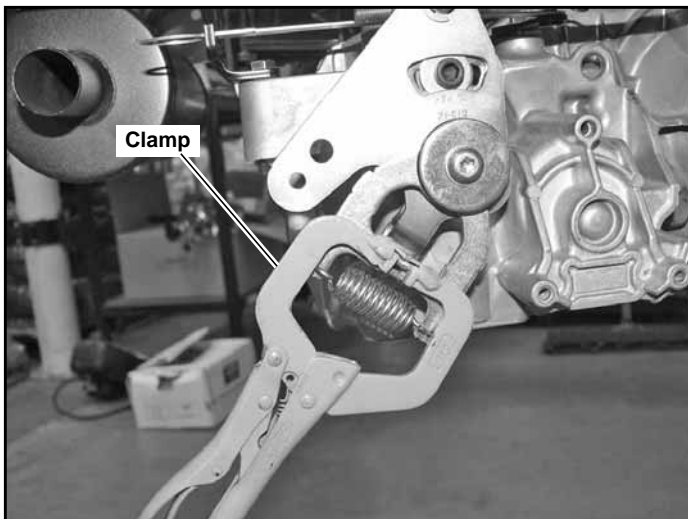

Figure 4-3
6. Place a clamp on the transmission pump arm as shown in Figure 4-3.